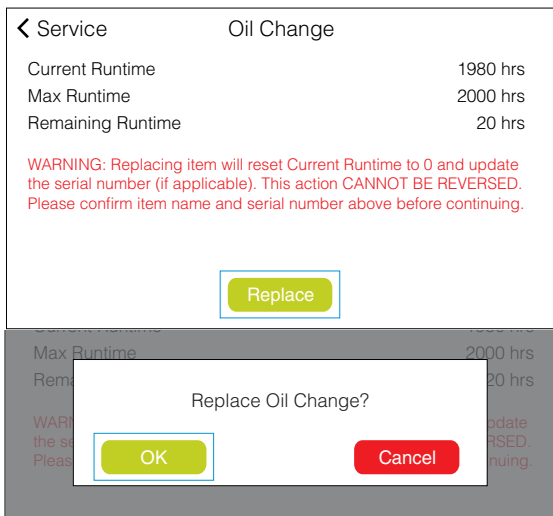

FIGURE 60. PRESS REPLACE; OK
- 10. On the Oil Change screen, press **REPLACE**. Press **OK** on the pop-up dialogue box (FIGURE 60).